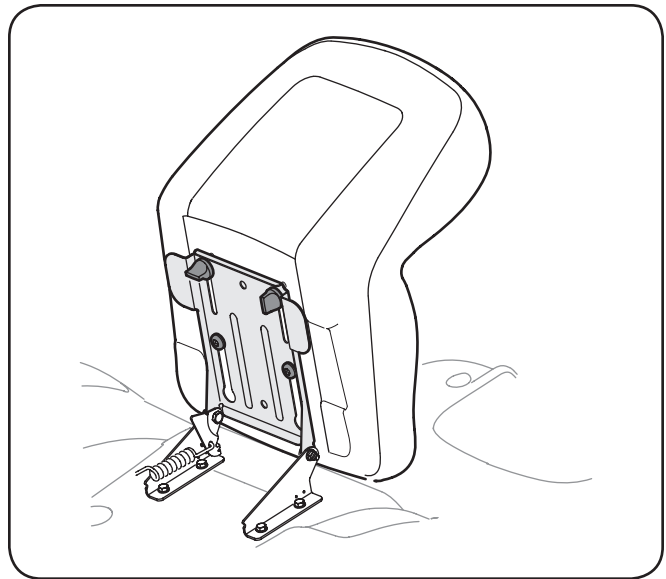

Figure 3-4
1. Position the shoulder screws (*found on the base of the seat*) inside the slot openings in the seat pivot bracket. See Fig. 3-4.
3. Select desired position for the seat, and secure with the two knobs removed earlier. See Fig. 3-4.